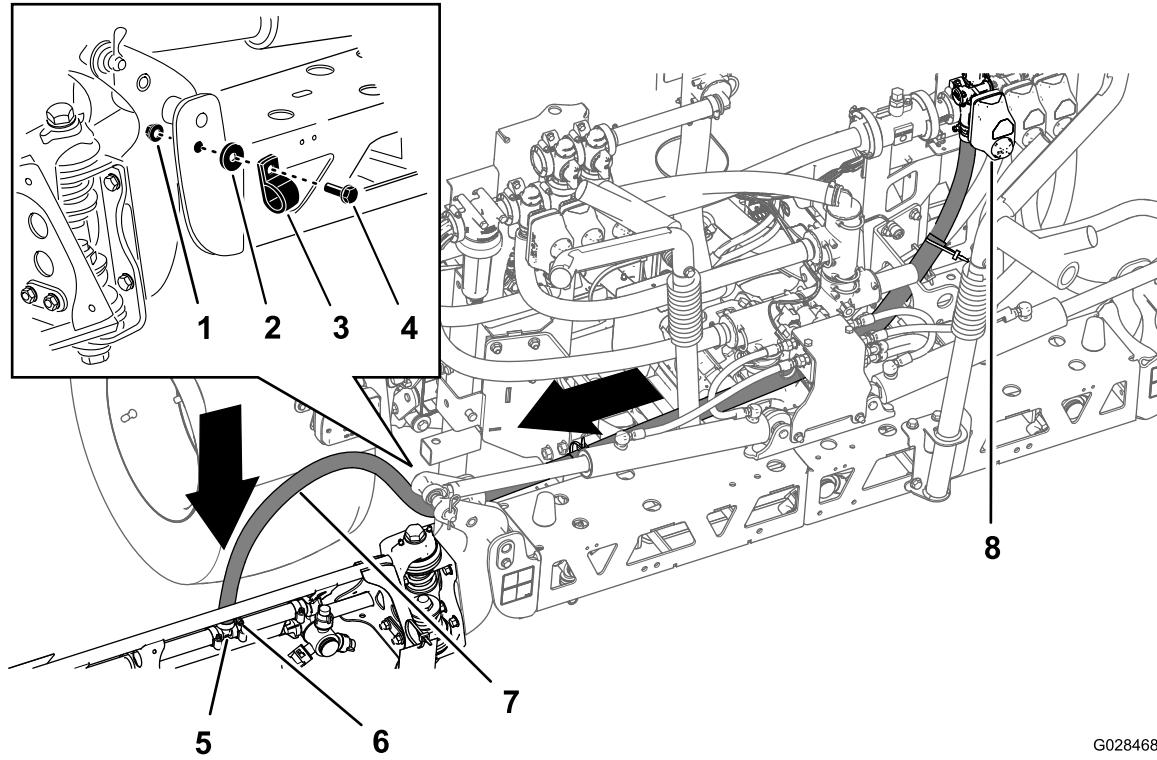
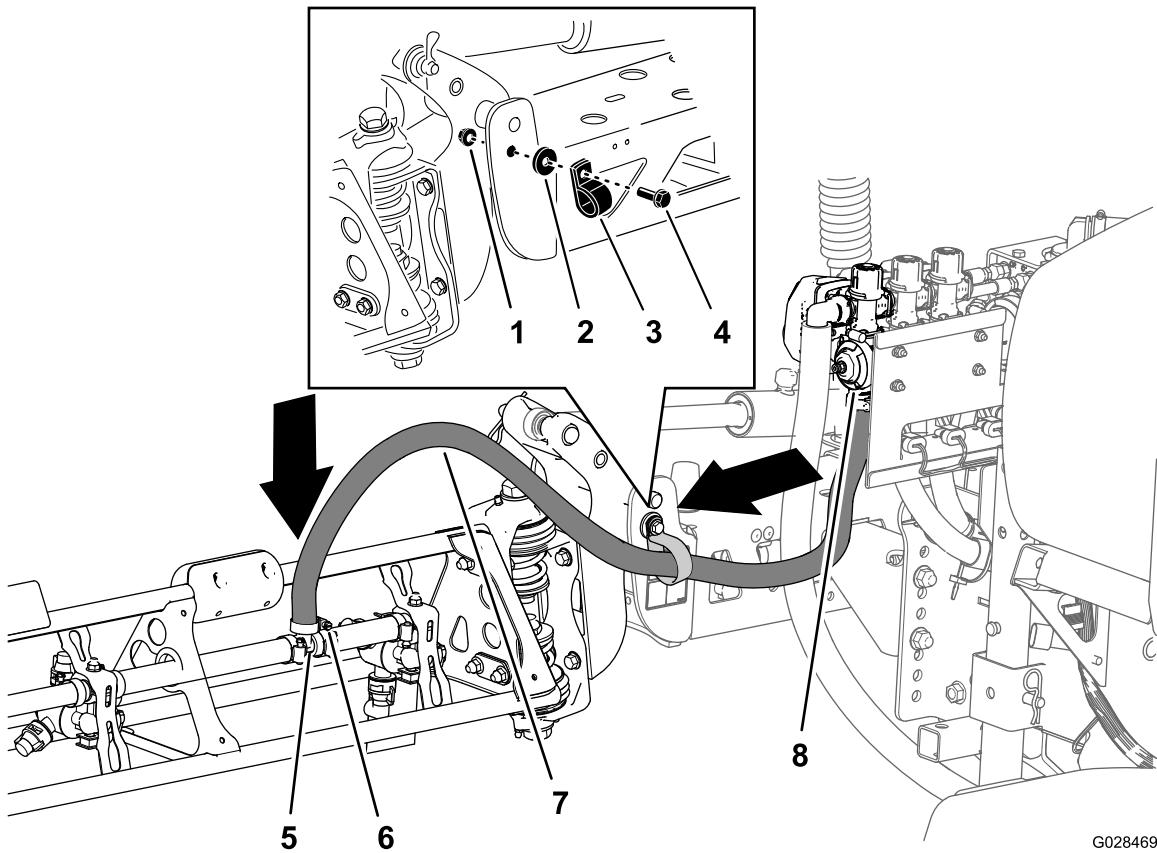

Figure 32
Figure 33
1. Route the boom-section hoses as shown in Figure 32 and Figure 33.
2. Secure the boom hoses to the front side of the center boom section (Figure 32 and Figure 33) with 1 R-clamp, 1 shouldered bolt (5/16 x 1 inch), 1 locknut (5/16 inch) and 1 washer (5/16 inch).
3. Install the boom section hose over the barbed T-fitting at the boom section and secure the hose with a hose clamp (Figure 32 and Figure 33).